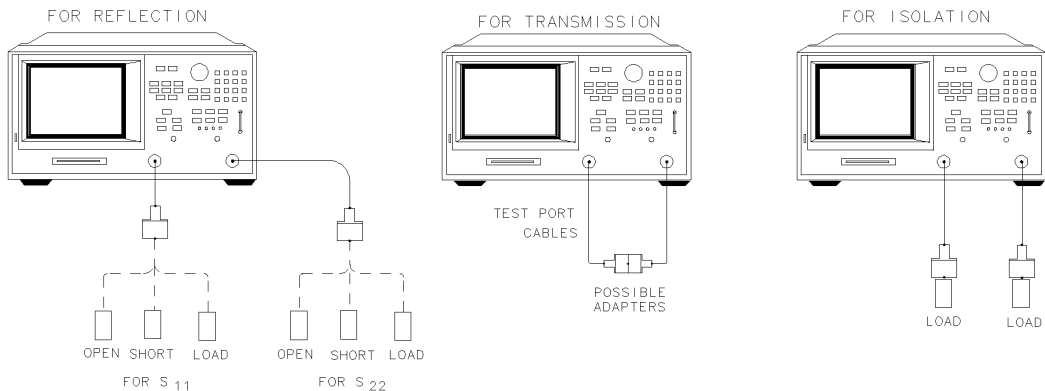

Figure 13-4. Standard Connections for Full Two Port Error-Correction
- 14** Make a "thru" connection between the points where you will connect your device under test as shown in Figure 13-4 on page 13-30.